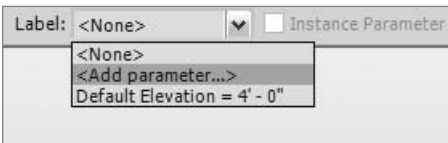

Figure 14.24
5. Select the dimension and use the Options bar to add a parameter (using the Label: drop-down menu) to the dimension, making it parametric (Figure 14.24).